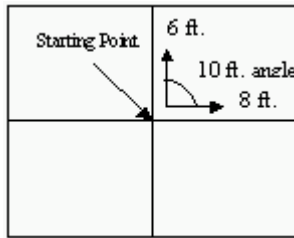

Figure 1
3. After selecting the starting point, snap chalklines that bisect this point at right angles. To achieve a perfect angle, which is critical, form a triangle by measuring 6' up from the center point. Then measure 8' out from the center point. Then, find a 10' angle between these two points. (See Figure 1 below.)